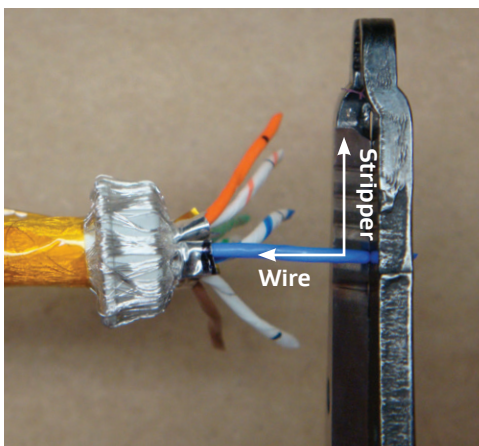

Figure 26: Stripping a primary wire
14. Strip each primary wire at the 0.177-inch mark on the 26 AWG position of the T-strippers (Figure 26). Make sure the wire is straight and the T-strippers are perpendicular to the wire. To ensure no wire damage and a clean strip, close the T-strippers around the primary wire and open slightly. Then, rotate your hand holding the T-strippers at a ¼ turn and close again.